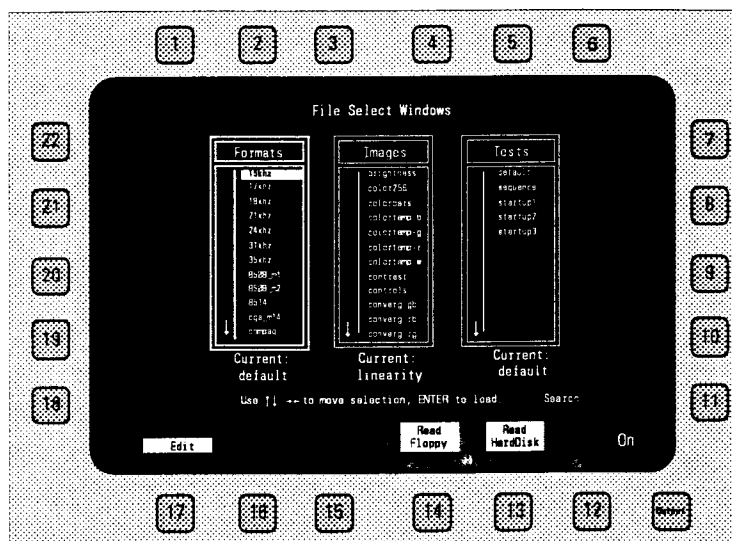

Figure 3-6. File Select Windows
7. The front panel CRT again is cleared and the *File Select Windows* screen is loaded. Figure 3-6 shows this screen.